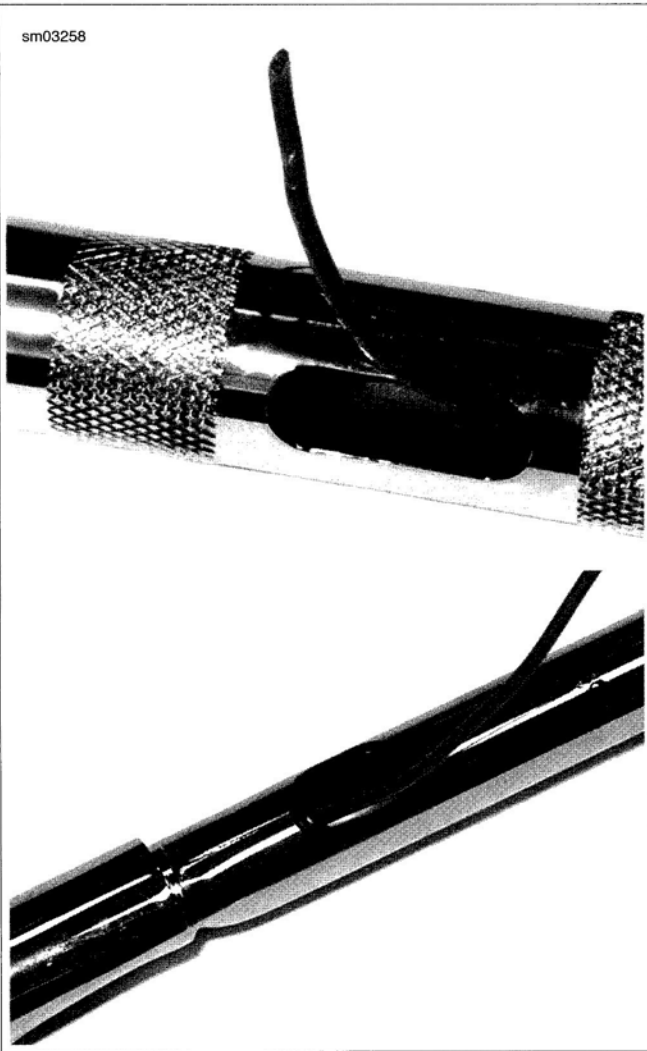

Figure 2-97. Wire Leader in Handlebars (handlebars removed from motorcycle)
7. See Figure 2-97. Thread the wire leaders through the handlebar grommets and out the center hole.